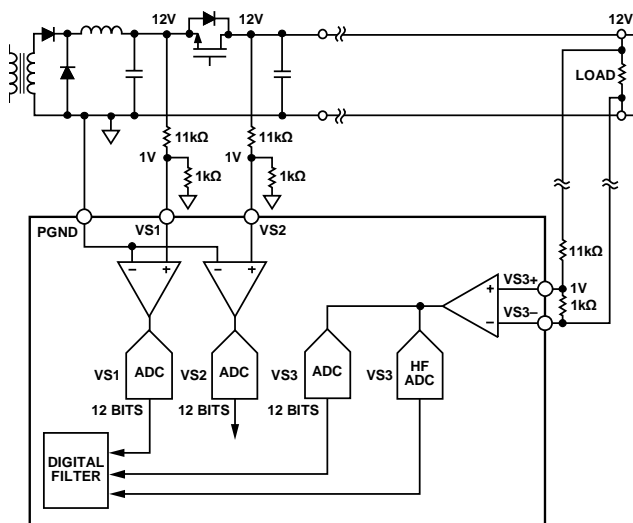

Figure 17. Voltage Sense Configuration
VS1 is used for the monitoring and protection of the power supply voltage at the output of the LC stage, upstream of the OrFET. The VS1 sense point on the power rail needs an external resistor divider to bring the nominal input voltage to 1 V at the VS1 pin (see Figure 17). The resistor divider is necessary because the VS1 ADC input range is 0 V to 1.6 V (12-bit reading). This divided-down signal is internally fed into a low speed  $\Sigma$ - $\Delta$  ADC. The output of the VS1 ADC goes to the digital filter and is also updated in Register 0x15 every 10 ms. The VS1 signal is referenced to PGND. When the OrFET is turned off, the power supply is regulated from the VS1 sense point instead of the VS3± sense point.
VS2 is used in conjunction with VS1 to control the OrFET gate drive turn-on. The VS2 sense point on the power rail needs an external resistor divider to bring the nominal common-mode signal to 1 V at the VS2 pin (see Figure 17).
VS3± is used for the monitoring and protection of the remote load voltage. VS3± is a fully differential input that is the main feedback sense point for the power supply control loop. The VS3± sense point on the power rail needs an external resistor divider to bring the nominal common-mode signal to 1 V at the VS3± pins (see Figure 17). The resistor divider is necessary because the VS3 ADC input range is 0 V to 1.6 V. This divided-down signal is internally fed into a high frequency (HF) ADC. The output of the VS3 ADC goes to the digital filter and is also updated in Register 0x17 every 10 ms. The HF ADC is also the high frequency feedback loop for the power supply.